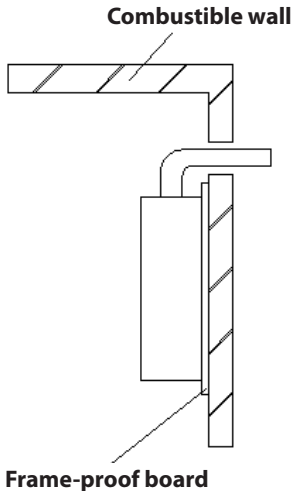

Figure 6.3-5
- When the installation area contains combustible material then a non combustible heat resistant mounting plate that exceeds the size of the water heater frame by at least 10 mm in all directions should be used (Figure 6.3-5).